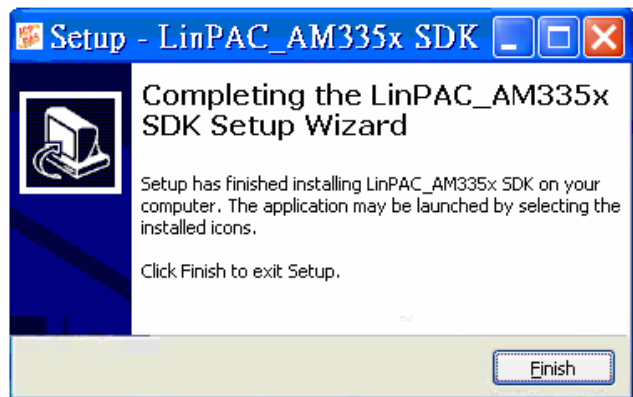

Fig. 2-12
6. Once the software has been successfully installed, click the “Finish” button to complete the development toolkit installation, refer to Fig. 2-12.